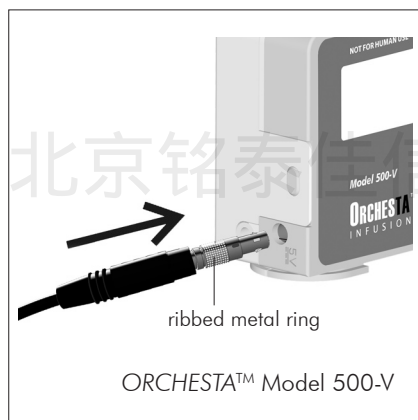

Figure 1: Socket for power supply
Take hold of the knurled metal ring (**see Figure 1**) and pull it back. The plug will be unlocked and can be easily removed.
1. If batteries or rechargeable batteries are inserted, **Figure 1** will automatically appear on the display.